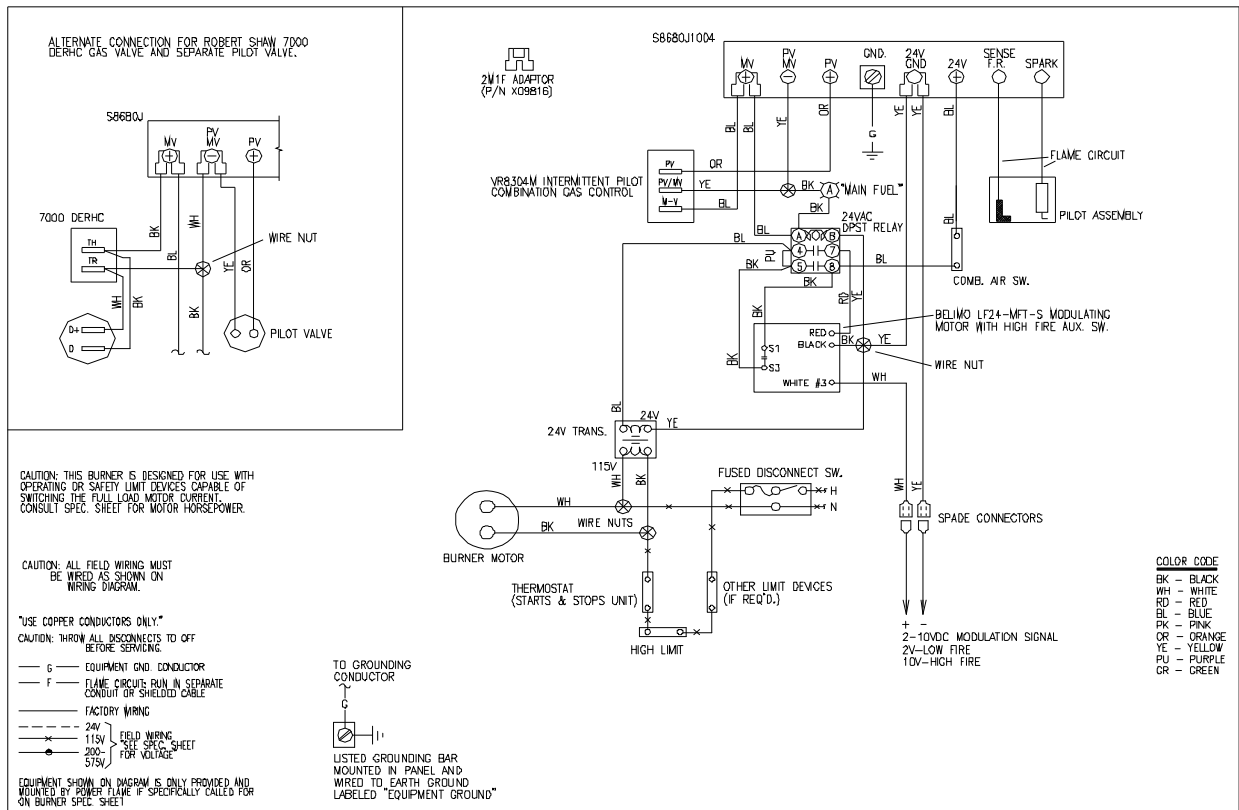

Figure 13: Typical Wiring Diagram For X4M with LF-24 Actuator
- 11.1 Refer to typical wiring diagram for X4M burner (Figure 13). Upon a call for heat, the blower motor starts, closing the combustion air switch. Power is supplied to the 24-vac transformer. Initially power to the actuator is held out through one set of normally open contacts on the 24-vac relay.